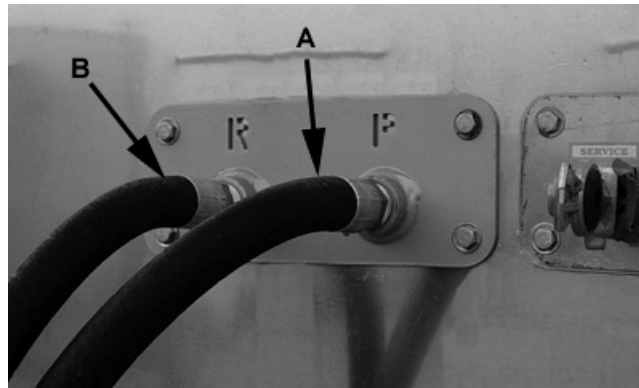

Figure 6-3 Connect Walking Floor Hydraulic Hoses
6. On moving floor trailers, disconnect the pressure (A) and return (B) hydraulic hoses from the couplers on the truck. See figure 6-3.